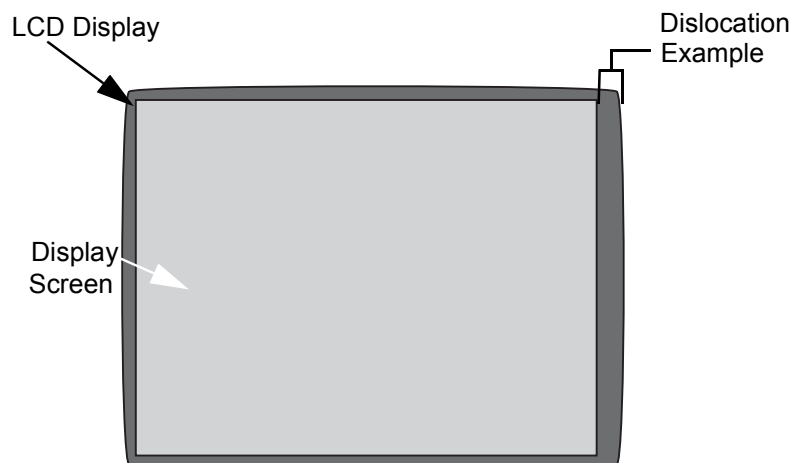

Figure 6-25 Example of LCD Bad balance
- Proper balance of the LCD display as shown in Figure 6-25